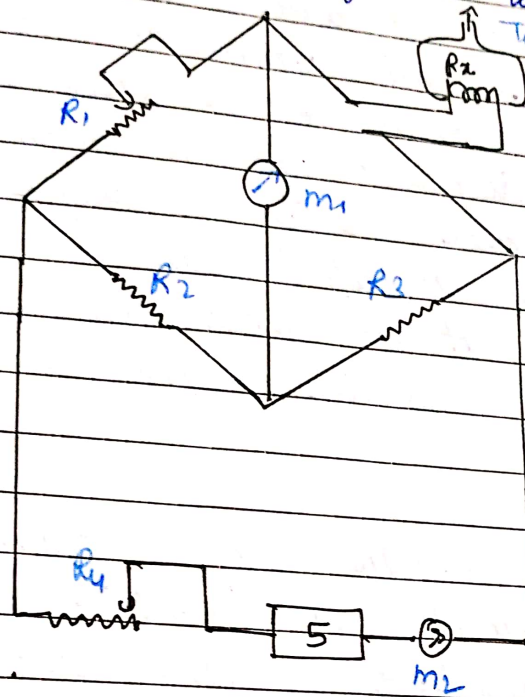

Fig 1:- Pirani Gauge.
A change in the pressure is inferred either from change in the filament current, with T and T_0 held constant or from the changes in the filament temperature with the filament current held constant. The working of a Pirani gauge is demonstrated in figure 1.
4. Penning Gauge :- The basic geometry of the Penning gauge with a tubular anode has been widely applied to the design of VHS pressure measurements. The manner in which the gauge operates can be seen from fig 1. -